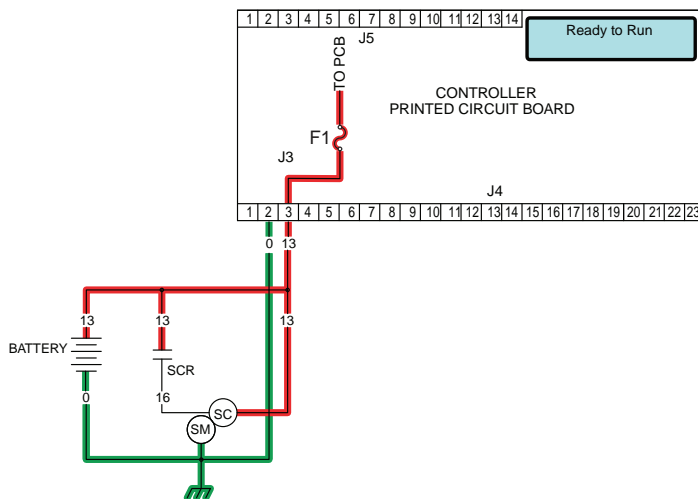

Figure 93.
- Battery voltage is available to the controller via Wire 13 when a Battery is installed (see Figure 93).